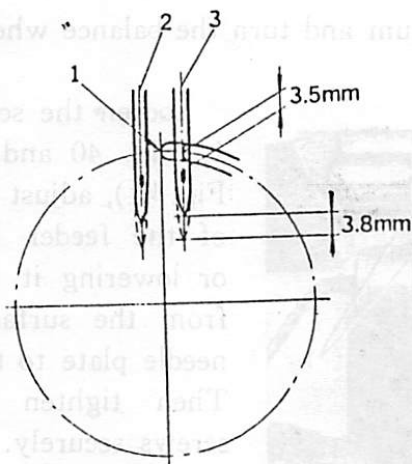

Fig. 36
Bring the hook point (1, Fig. 36) to the center between two needles (2) and (3), then tighten the hook screws, at the same time, set the clearance between the needle and hook point 0.1 mm to 0.2 mm.